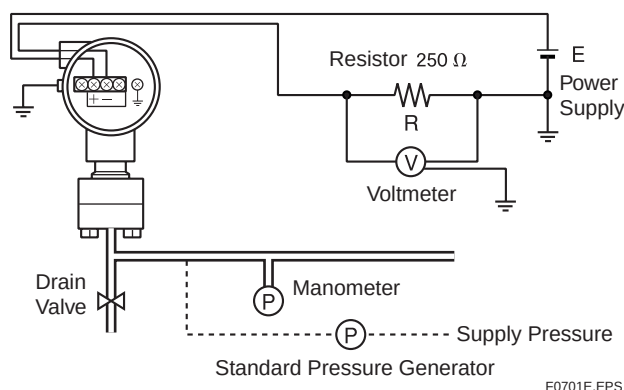

Figure 7.1 Connections for Maintenance
- 2) Connect the wiring and piping as shown in Figure 7.1, and warm it up for at least five minutes.
- 1) Referring to Figure 7.1, connect the wiring and piping, and warm it up for at least five minutes.